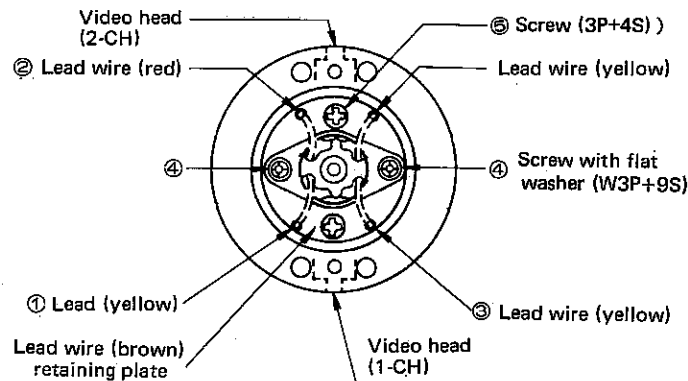

Figure 36.
1. Install the replacing drum as shown in Figure 36 and direct it so that the leads of specific colors come just as illustrated.